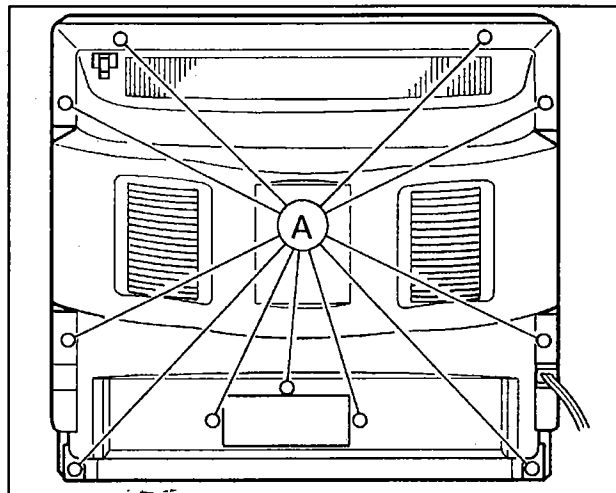

Fig. 1
- 1. Take out 11 screws ① indicated in Fig. 1.